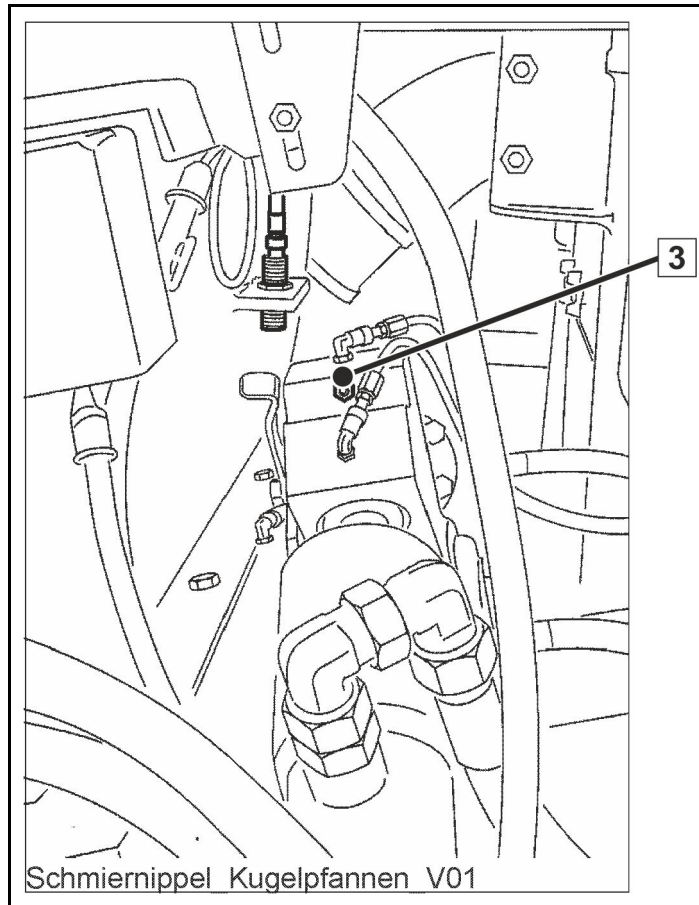

Fig. 329
The additional grease nipples, e.g. (1) (**Fig. 329**) do not have to be lubricated!